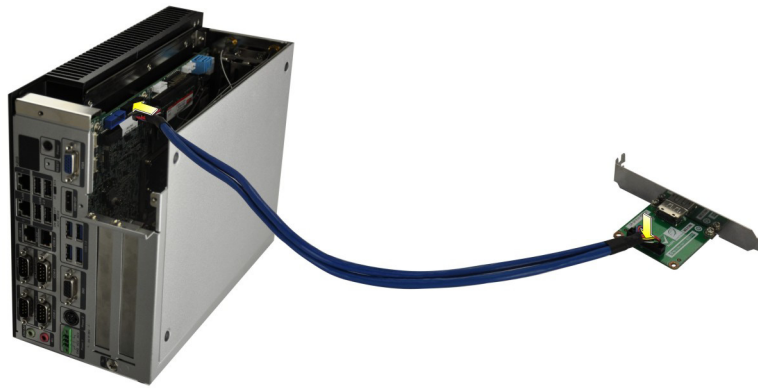

Figure 3-25: iDP Module Installation
Step 5: Remove the retention screws on the expansion slot bracket. See **Figure 3-25**.